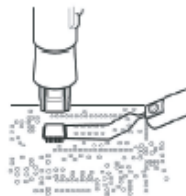

Fig. 4
2. Slip the pick-up puller (optional part) under the component lead. (Fig. 4) If the width of the component does not match the size of the pick-up, adjust the width of the pick-up by squeezing the wire. In case of PLCC or small components such as chip resistors, desolder by using tweezers, etc.